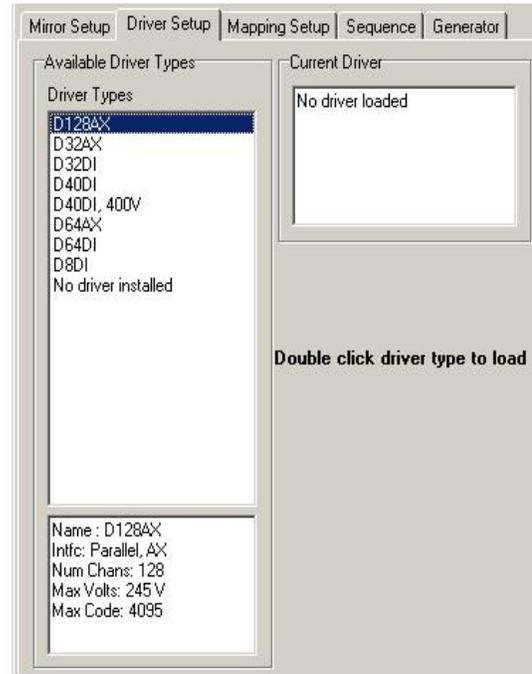

Figure 8: Driver Setup Tab
- 3) Once a mirror is chosen, the **Driver Setup** tab will activate. Double-click on the AgilOptics drive currently connected to the computer (See Figure 8).